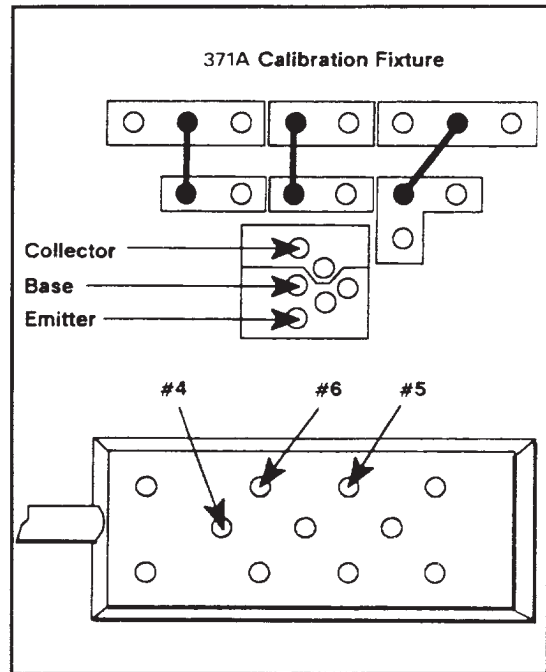

Figure 4-30. Setup A for checking Test Fixture continuity.
1. Connect the patch cords on the Test Fixture as shown in Figure 4-30.